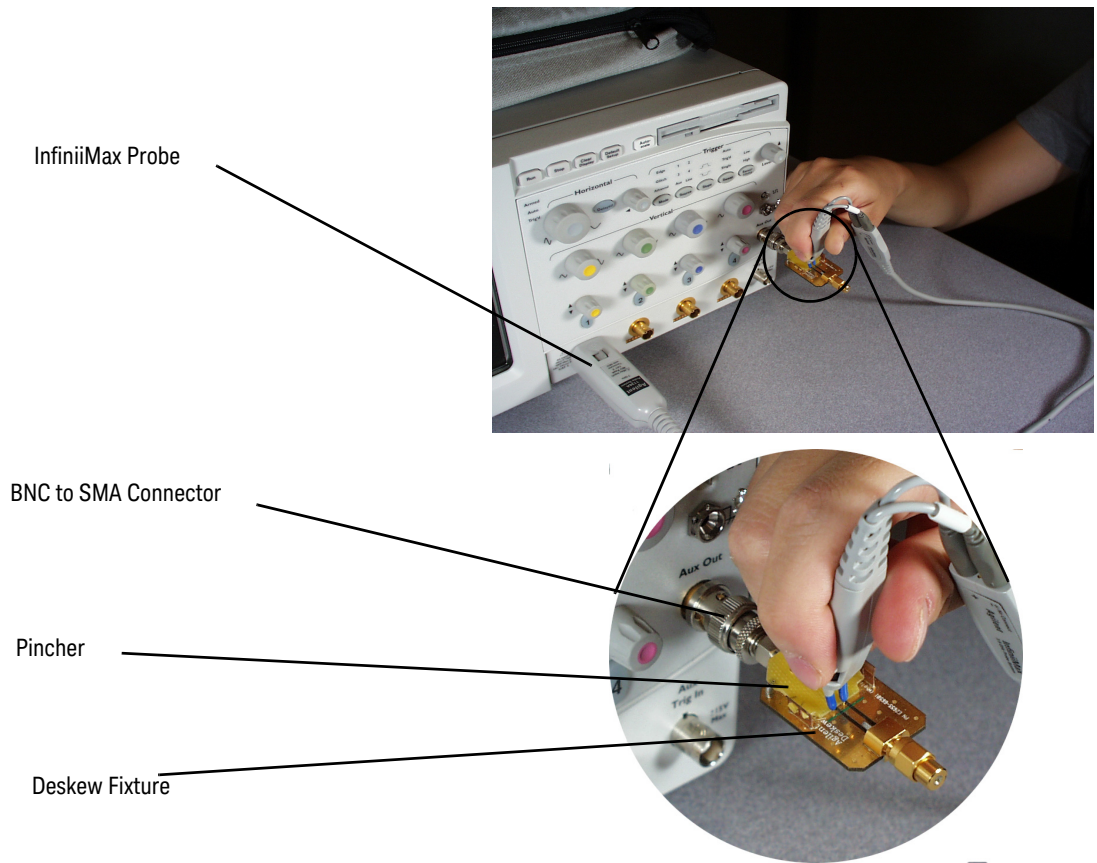

Figure 54 Placing the Probe on the Fixture
- 1 As shown in **Figure 54** on page 90, connect BNC (male) to SMA (male) adapter to the deskew fixture on the connector closest to the yellow pincher.